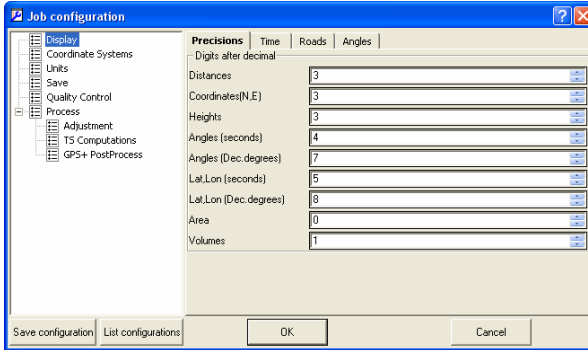

Figure 2-11. Job Configuration – Precisions Tab
- The *Precisions* tab (Figure 2-11) sets the viewing number of digits after the decimal for the various measurements.